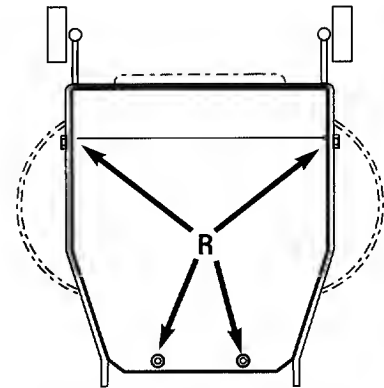

Figure 5-5: Belt cover removal.
2. Remove four screws (R, Figure 5-5) and remove cover.